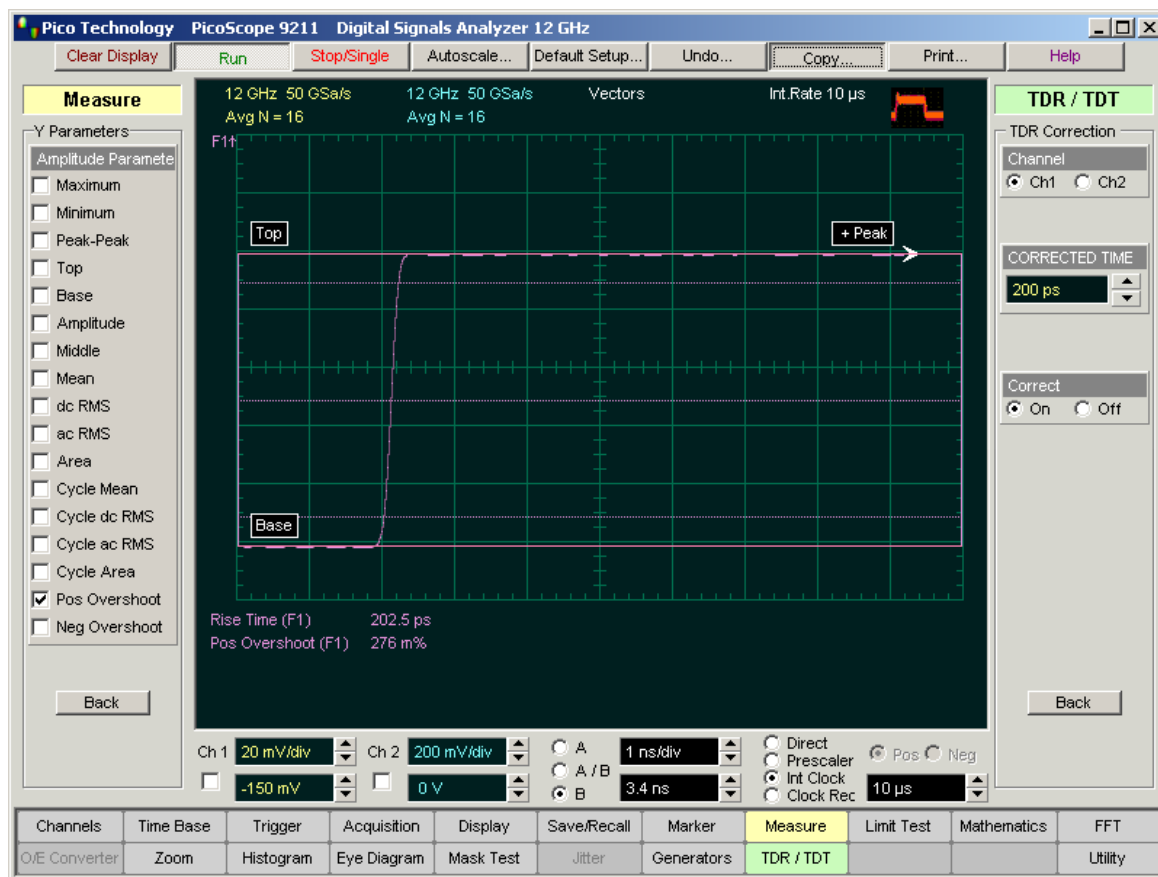

Figure 3
15. Set the CORRECTED TIME to 200 ps. See Figure 3.